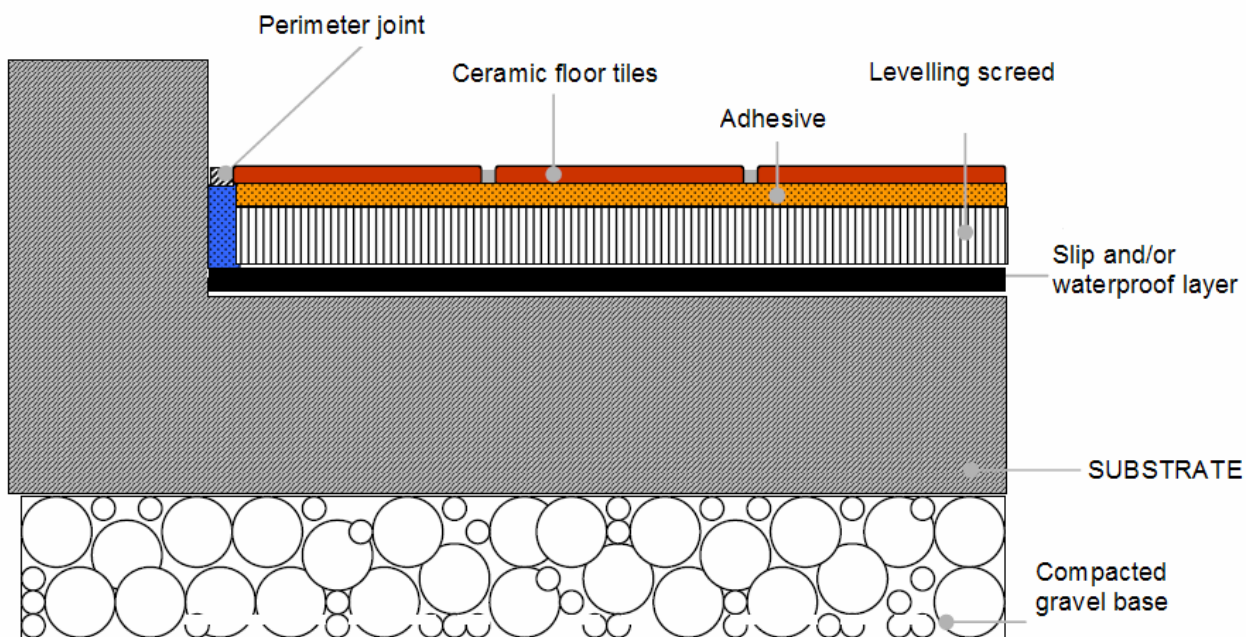

FIGURE 1
- In areas of frequent rain, it is advisable to **waterproof the substrate** with asphalt fabric or similar, or at least leave a suitable drainage layer beneath the substrate, such as a compacted gravel base (see Fig. 1).